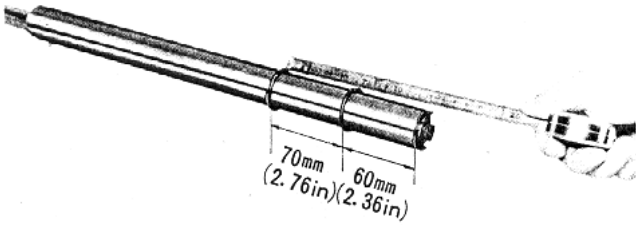

Fig. 13-23 Installing oil stop rings
- 11. Install the two oil stop rings onto the bottom side of the pressure tube as shown in Fig. 13-23.